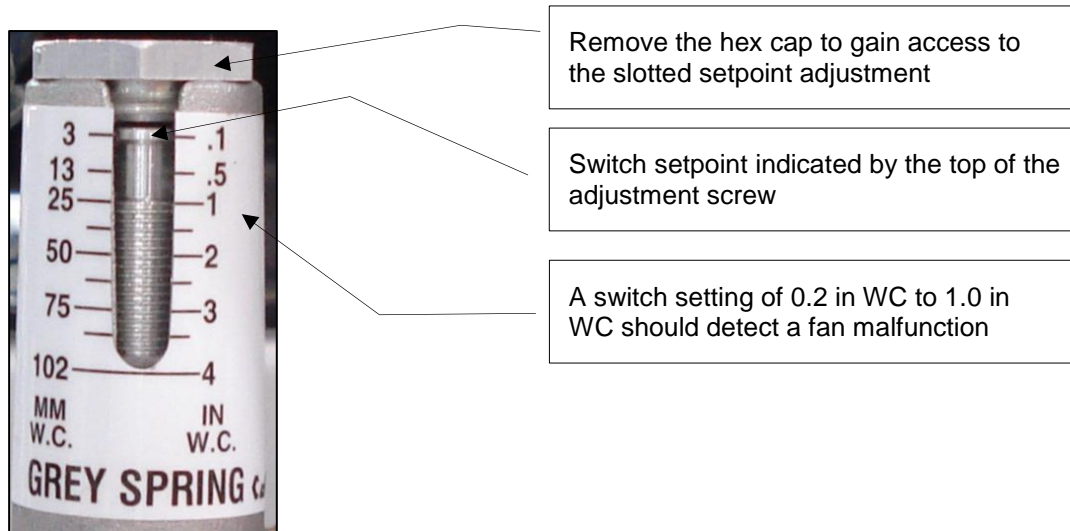

Figure 16. Adjust the airflow switch.
The position of the top of the adjustment screw indicates the switch pressure setting. View the pressure setting through the slot in the stem (Figure 16). To adjust the airflow switch:
1. Remove the aluminum hex cap on the top of the stem (Figure 16).